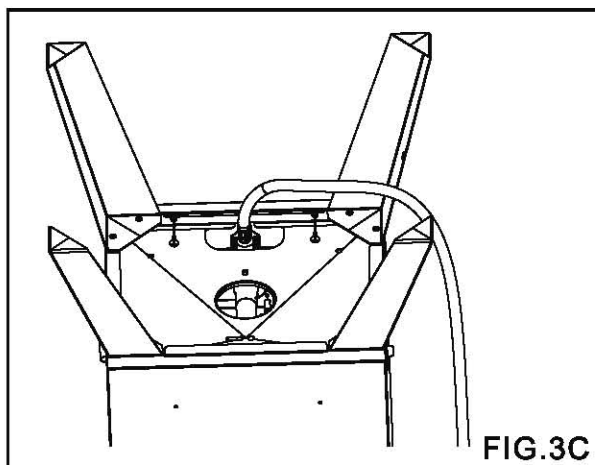

FIG.3C
2. Insert the 2 bolts as shown in Fig.3C and tighten them securely to the cabinet.